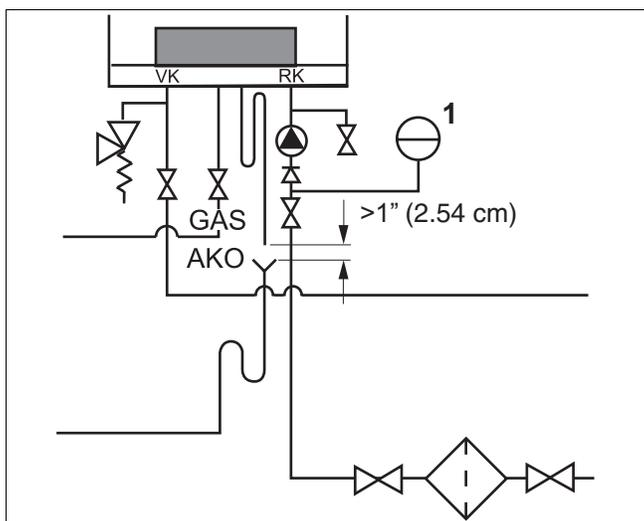

Fig. 18 Connecting the expansion vessel in a single-boiler system
- Connect the expansion tank to the boiler return. If a check valve is available: connect the expansion vessel to the CH-side of the check valve in the return circuit (fig. 18, pos. 1).